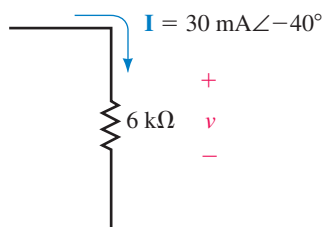

FIGURE 18-77
- Repeat Problem 1 for the resistor of Figure 18-77.